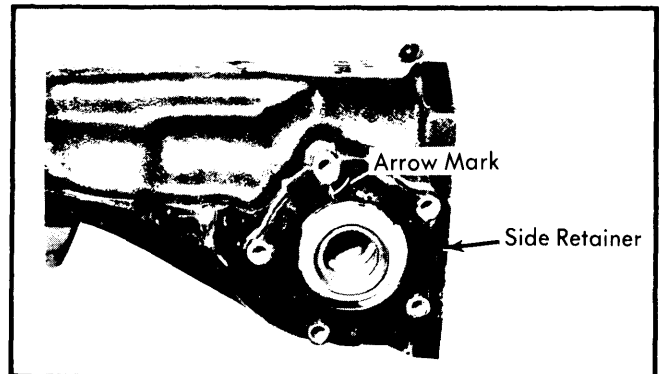

Fig. 12 Aligning Side Retainer
2) Install differential case assembly into differential carrier in reverse order of disassembly. Fit selected shims and "O" ring on the side retainer and install retainers in carrier with arrow pointing as shown in Fig. 12.